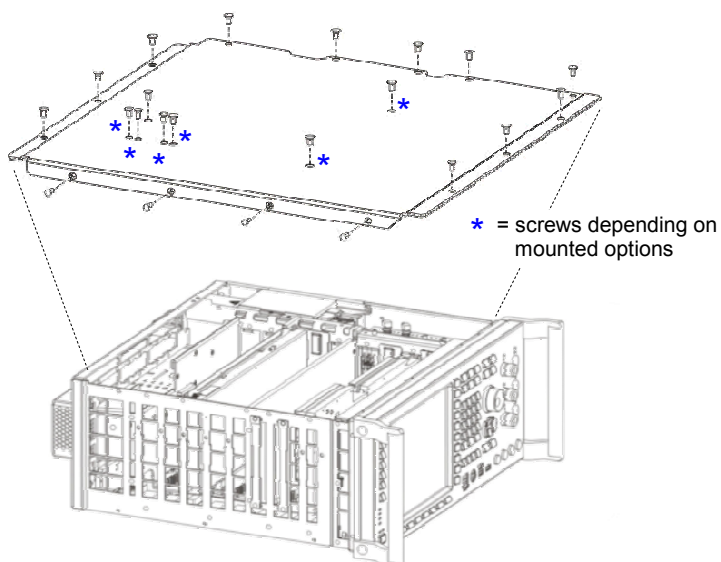

Figure 5 Removing the cover
- g Undo the screws at the cover and lift it off (see Figure 5).